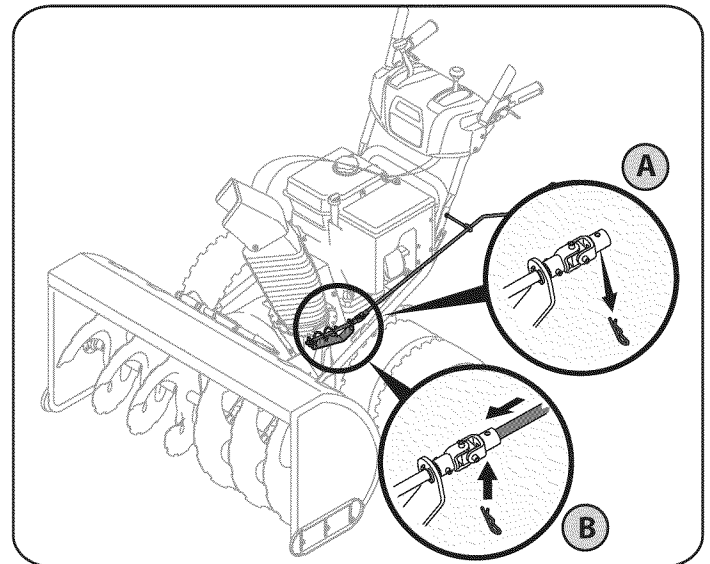

Figure 3
1. Remove the hairpin clip from the spiral control as shown in A of Figure 3.
2. Insert the chute directional control rod into the fitting on the spiral control as seen in B of Figure 3.
3. Secure with the hairpin clip previously removed. See Figure 3.